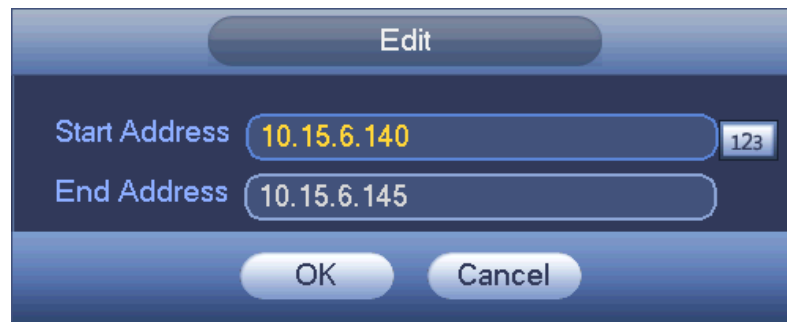

Figure 4-109
- **Edit:** Click it to edit start address and end address. See Figure 4-109. System can check the IP address validity after the edit operation and implement IPv6 optimization.